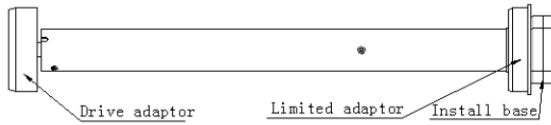
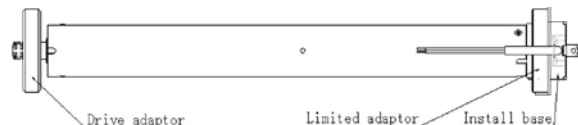

Fig.1 Manual
Fig.2 Without manual
4. Product Scheme: Fig.1 Manual , Fig.2 Without manual